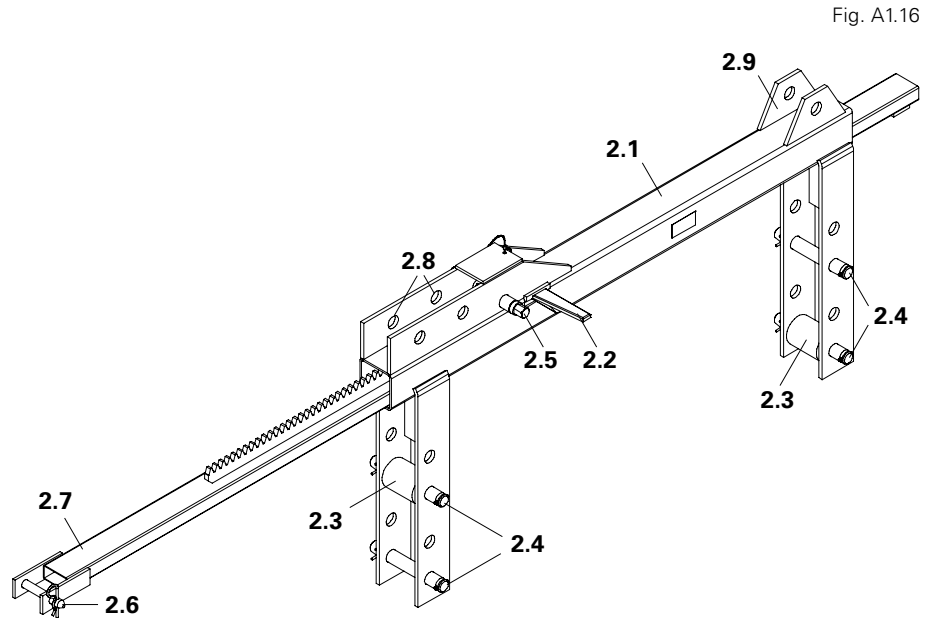

Fig. A1.16
2. Insert rack (2.7) into the carriage (2.1). (Fig. A1.16)
4. Remove lower-positioned bolts (2.4) and roller (2.3) from the carriage. (Fig. A1.16)
8. Insert and secure second bolt on the formwork side. (Fig. A1.16)